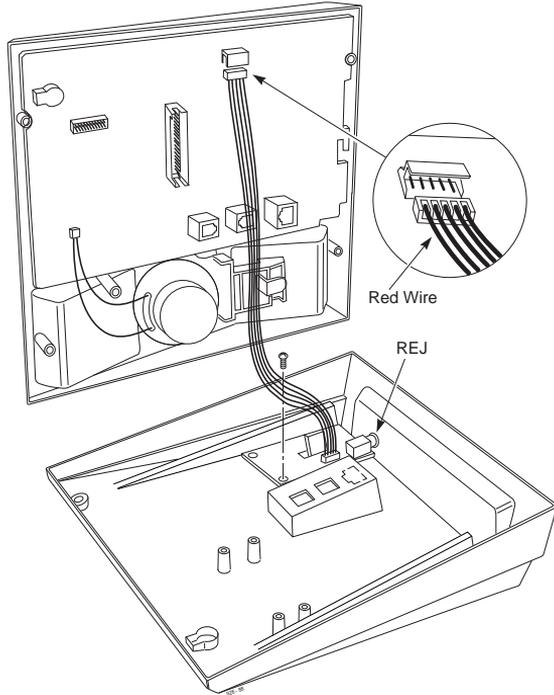

**Figure 4-23 INSTALLING THE REJ
4. Install the REJ as shown with the components facing down. Refer to Figures 4-23, 4-24, and 4-25.